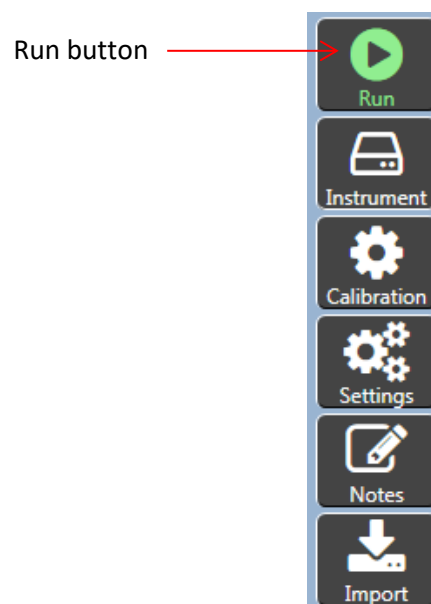

Figure 35: TESC Software Sidebar Column
7. On the PC, select **Run** from sidebar column, as shown in Figure 35.